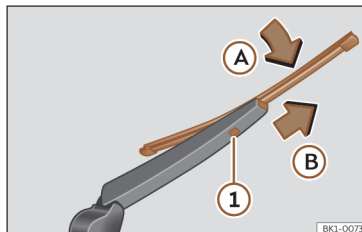

Fig. 146 Changing the rear wiper blade
- Turn the blade slightly >>> Fig. 146 (arrow A).